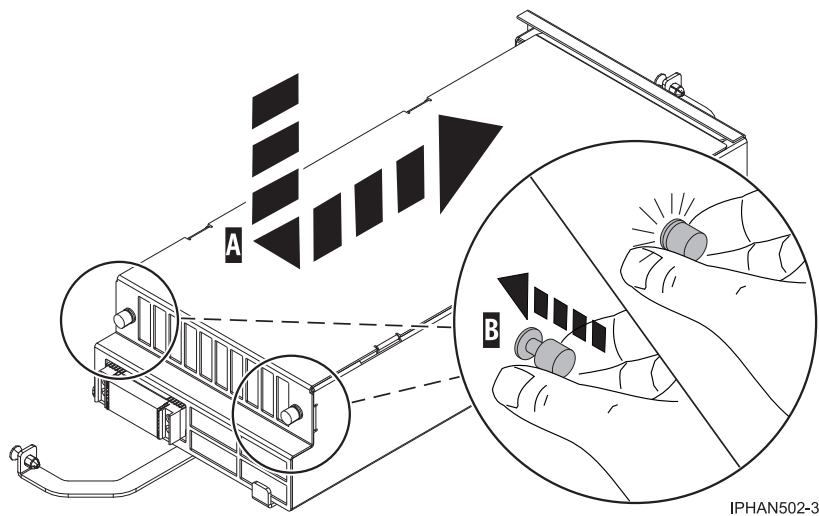

Figure 13. Replacing the system processor assembly cover replacement
9. Place the cover (A) on the processor card assembly, and then lock the two retention knobs (B), as shown in Figure 13.